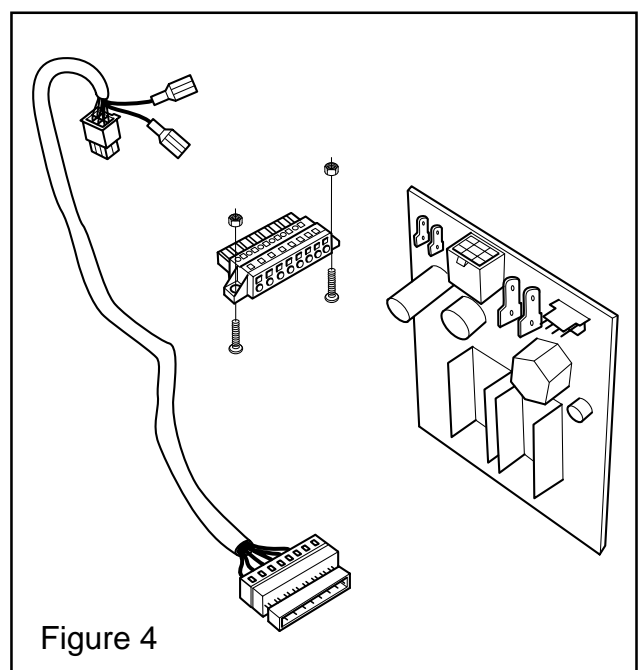

Figure 4
6.1. Parts included in the kit 535 08 21-01 (see figure 4)